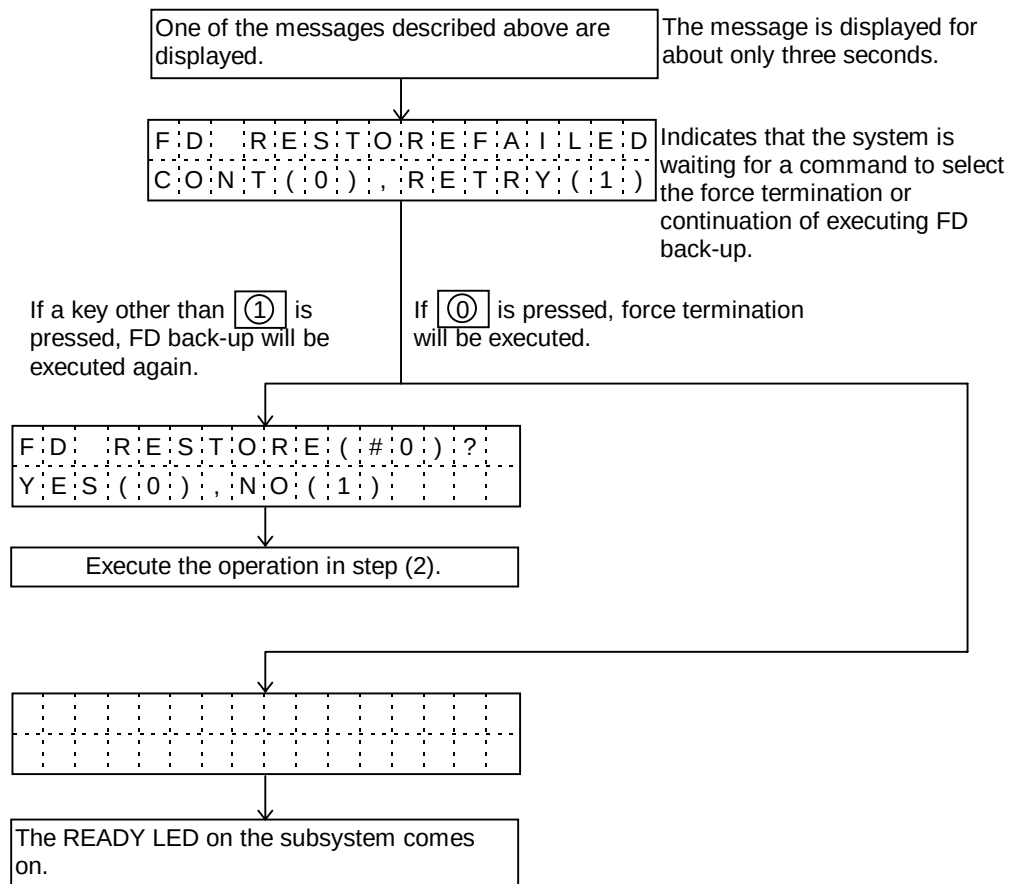

Figure 2.3.4 DIP Switches
- (2) Operate as described below.
(3) Set DIP switch No.3 as shown in Figure 2.3.4.